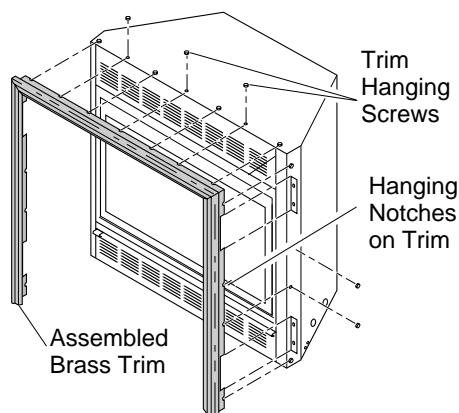

Figure 37 - Attaching Brass Trim to Fireplace
8. Tighten trim hanging screws (#10 x 6.25 shoulder) into holes in cabinets. Place the assembled trim onto fireplace cabinet. Align hanging notches on trim with hanging screws on side of fireplace (see Figure 37). Push trim firmly into place, sliding hanging notches over hanging screws.